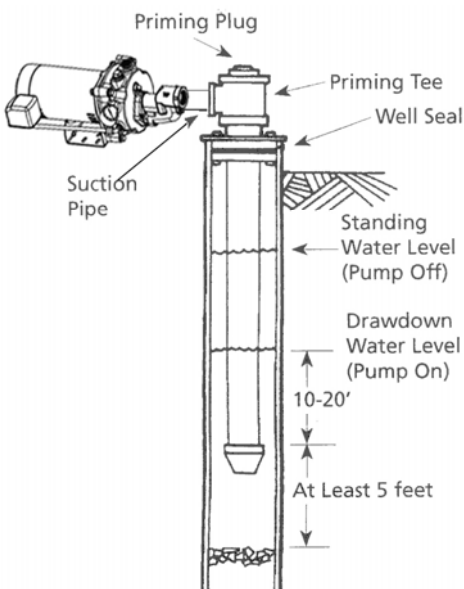

Figure 5 -Cased/Dug Well installation
5. When using a foot valve, a priming tee and plug as shown in Figure 5 are recommended.